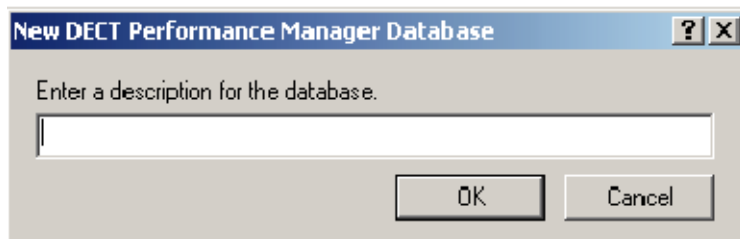

Figure 208: New DECT Performance Manager Database description dialog box
3. Enter a description for the database. See Figure 208: New DECT Performance Manager Database description dialog box on page 299.